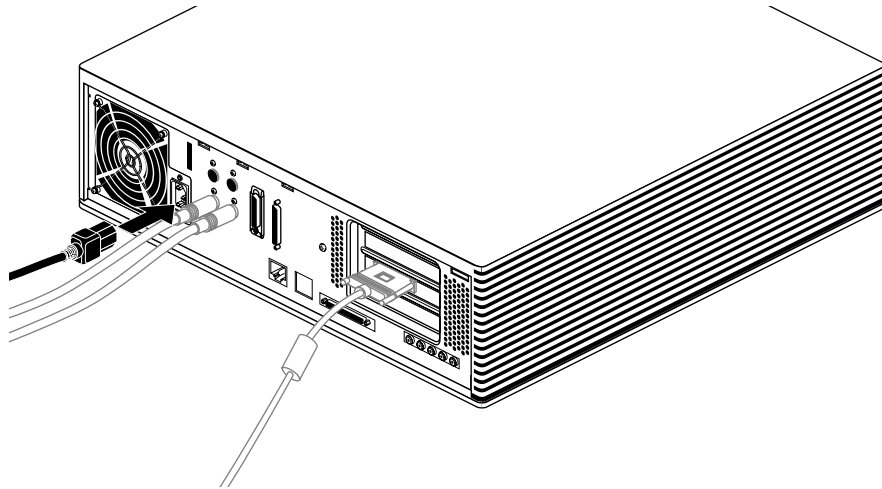

Figure 2-20 Attaching the Power Cable to the Indigo² IMPACT Workstation
2. Connect the other power cable to the workstation, as shown in Figure 2-20.